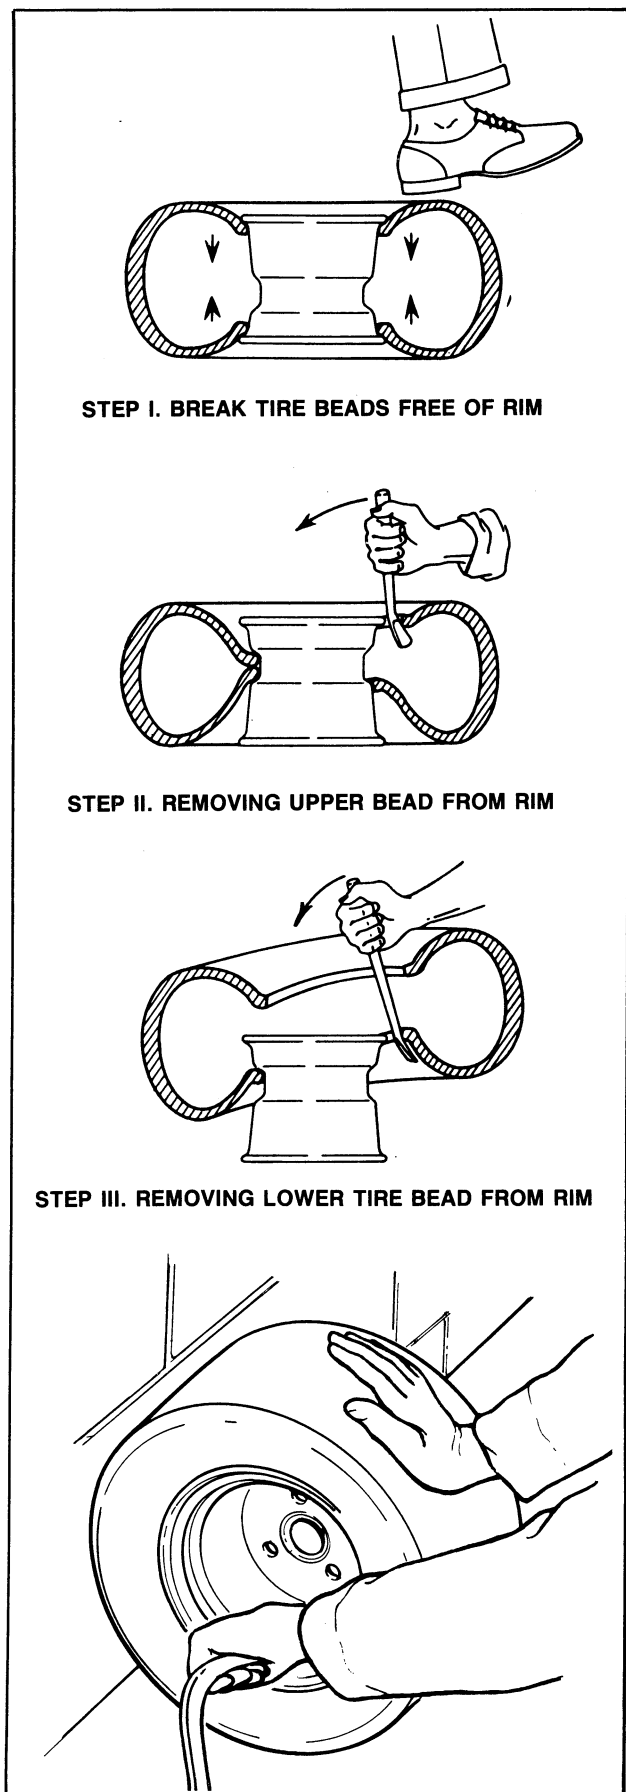

Figure 4 – Tire Removal and Installation
2. TIRES (Figure 4)
- With valve stem side up, carefully start upper bead over edge of wheel rim with tire tool, Step II, Figure 4, Page 19.
- When top bead is free of rim, shift lower bead into rim well on one side of wheel and insert tire tool on opposite side. Pry lower bead over rim flange, Step III, Figure 4, Page 19.
- f. Place tire upright against wall and push against tire on side opposite wall, Figure 4. This three point contact will tend to bring bead out in contact with rim so that internal pressure is formed and beads snap into place when air is applied through valve stem.